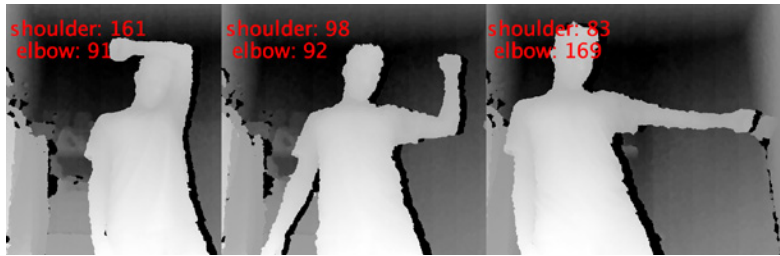

Figure 6-5. Three screen captures from our forward kinematics angle calculation sketch. These angles are ready to be sent to the Arduino to control servos.
Figure 6-5 shows the results of our sketch. In the first image, My shoulder is almost completely extended, raising my arm up alongside my head. We get an angle reading of 161 for the shoulder, close to 180. My elbow is bent at a right angle and we're seeing 91 for its value. In the center image, both my shoulder and elbow are bent at near right angles. We're reading 98 for the shoulder and 92 for the elbow, which is perfect. Finally, in the third image, I've extended my arm out straight to my right. We're still seeing near 90 for the shoulder (83), but now the elbow angle has increased to 169 just as we'd expect.